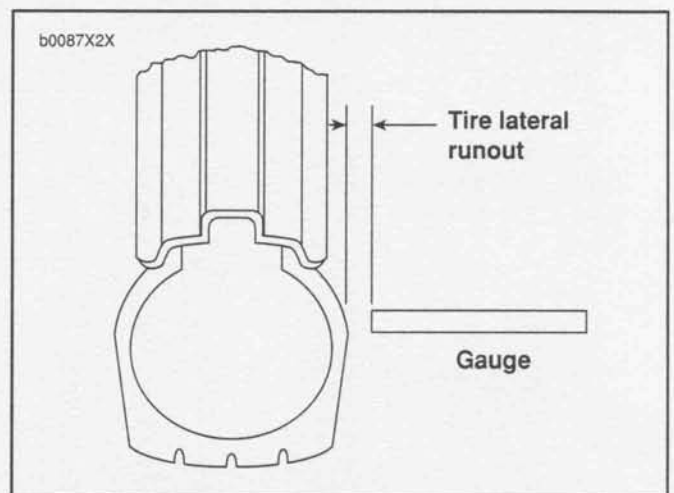

Figure 2-39. Checking Tire Lateral Runout
1. See Figure 2-39. Check lateral runout by turning wheel on axle, measuring amount of sideways displacement from a fixed point near the tire sidewall.